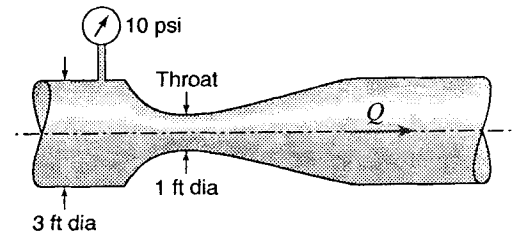

Figure S5.9
5.10.5 Referring to Fig. S5.9, find the maximum theoretical flow rate for water at 70°C. Neglect head loss. The diameters are 800 mm and 400 mm respectively, the upstream pressure is 20 kPa, and the atmospheric pressure is 750 mmHg